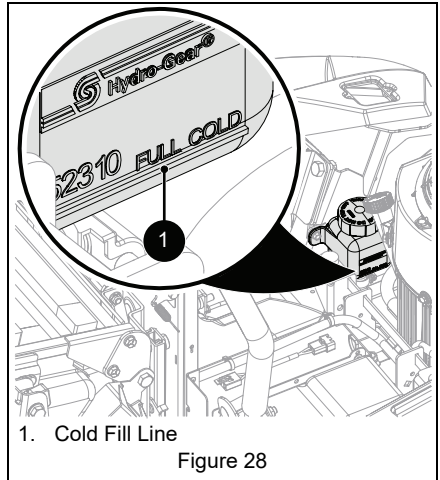

Figure 28
2. Check oil level in expansion tanks. Oil should reach the cold fill indicator mark. See Figure 28.
- b. Fill expansion tanks with 15W-50 Full-Synthetic Hydraulic Fluid until oil reaches the cold fill indicator mark. See Figure 28.